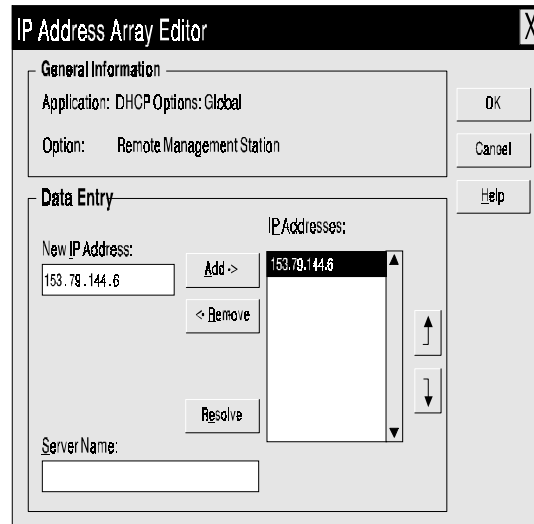

Figure 9. IP Address Array Editor Screen
- d. Select Edit Array if the value you need to add is an IP address (such as for a router, RMS, or NMS) (Figure 9 displays).
- e. Enter the unique IP address for the option you added. Figure 9 shows an example of adding the IP Address for an RMS.